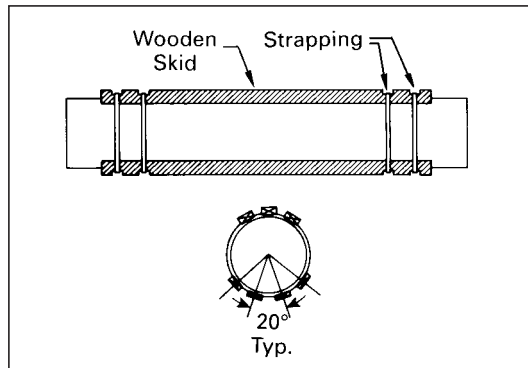
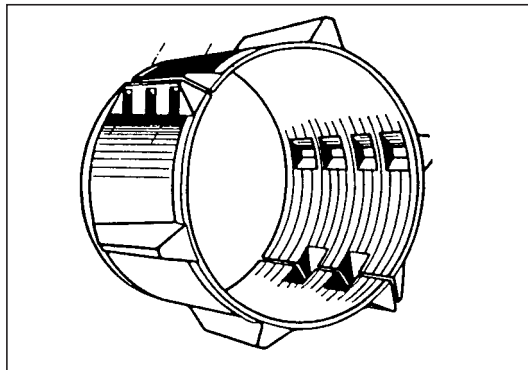

Figure 6.10
Figure 6.11
2. Pipes should be protected from sliding damage by the use of wooden skids attached to the pipe by strapping as shown in *Figure 6.10*. Skids must provide sufficient height to permit clearance between the coupling joints and the casing wall. (Also, see *Figure 6.11*)